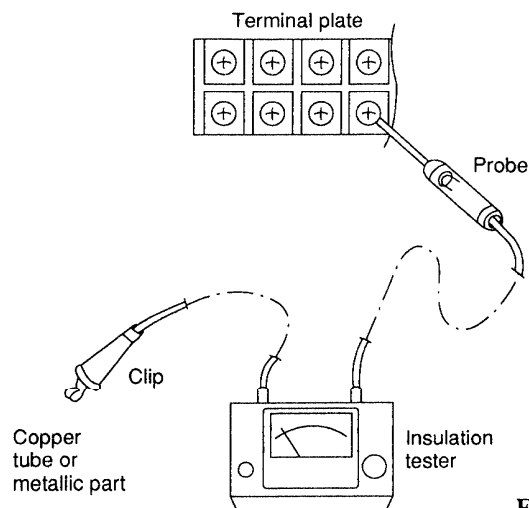

Fig. 2
Clamp an aluminum plate fin or copper tube with the lead clip of the insulation resistance tester and measure the resistance by placing a probe on ①, and then ② on the terminal plate. (Fig. 2)
Clamp a metallic part of the unit with the lead clip of the insulation resistance tester and measure the resistance by placing a probe on ①, and then ② on the 2P terminal plate. (Fig. 2)